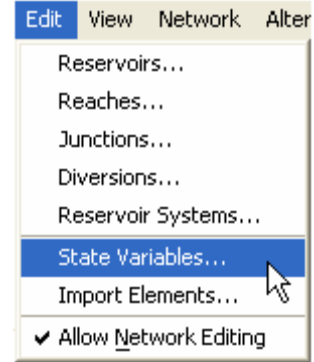

Figure 11.118 Network or Simulation Module - Edit Menu, State Variables...
1. From the **Edit** menu in either the **Reservoir Network** module (with a Network opened) or the **Simulation** module (with a Simulation opened and an Alternative activated), select **State Variables...** (as shown in Figure 11.118).